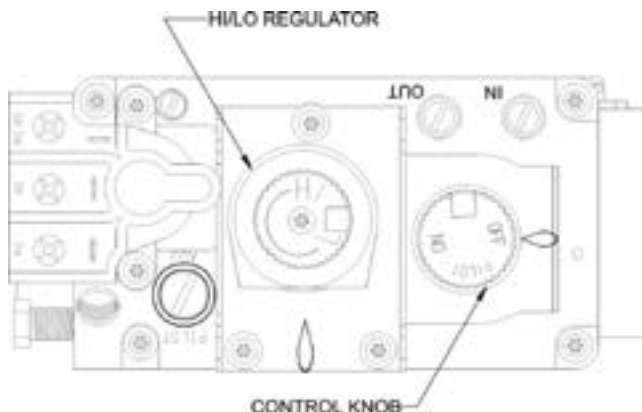

Figure 20
**NOTICE:** The gas control valve allows you to increase or decrease the height of the main burner flame. The control valve has a pressure regulator with a knob as shown in **Figure 20**. Rotate the knob clockwise to "HI" to increase the flame height and counterclockwise to "LO" to decrease the flame height.